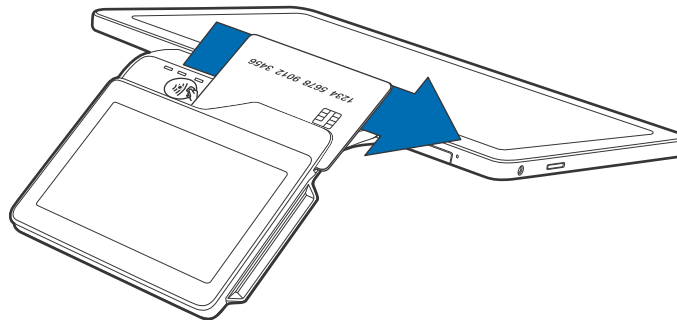

Figure 18 Using the Magnetic Card Reader
- 2 To ensure a proper read of the magnetic stripe, swipe the card smoothly through the reader in one direction (from left to the right), as shown in Figure 18.